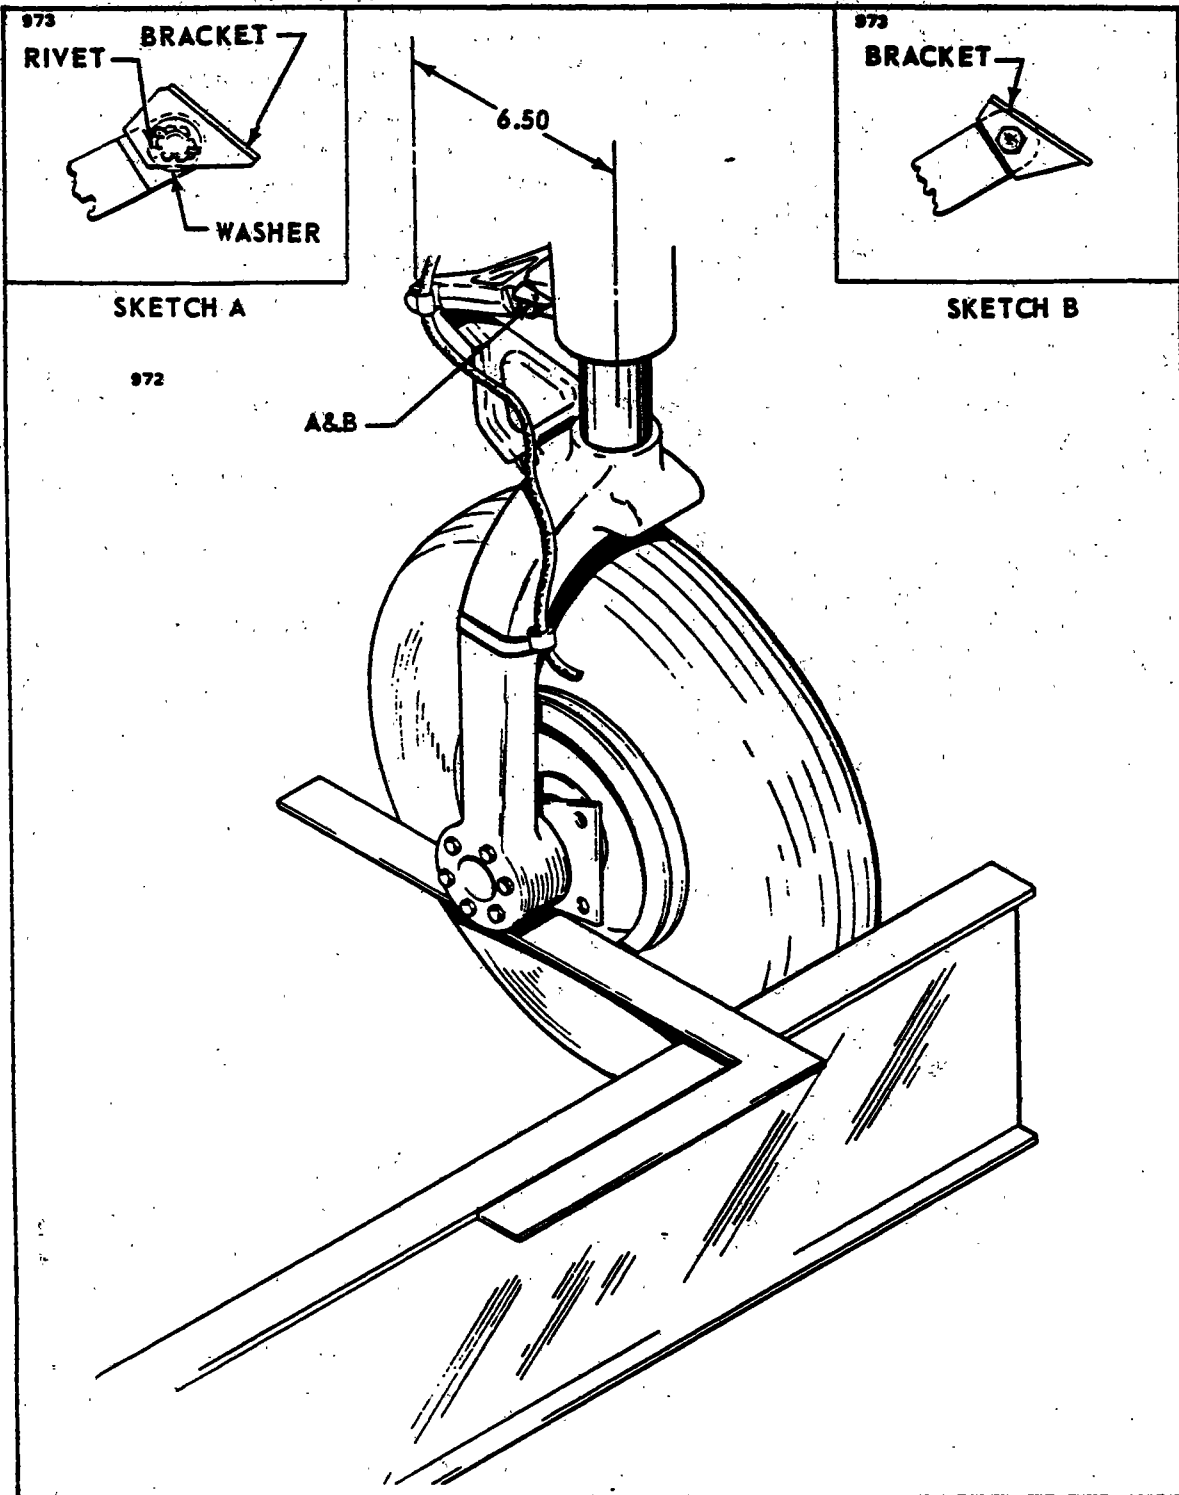

Figure 7A-10. Aligning Main Gear
- a. Place a straightedge no less than twelve feet long across the front of both main landing gear wheels. Butt the straightedge against the tire at the hub level of the landing gear wheels. Jack the airplane up just high enough to obtain a six and one-half inch dimension between the centerline of the strut piston and the centerline of the center pivot bolt of the gear torque links. (Refer to Figure 7A-10.) Devise a support to hold the straightedge in this position.
- b. Set a square against the straightedge and check to see if its outstanding leg bears on the front and rear side of the brake disc. (It may be necessary to remove the brake assembly to have clear access to the disc.) (Refer to Figure 7A-10.) If it touches both forward and rear flange, the landing gear is correctly aligned. The toe-in for the main landing gear wheels is  $0 \pm 1/2$  degrees.